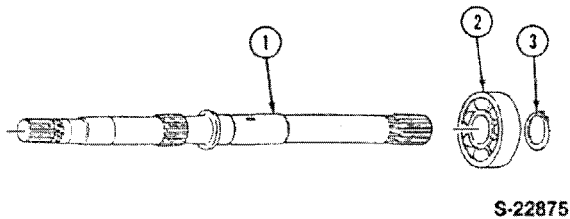

Figure 55
3. Press the bearing (2) in place on the input shaft (1) and secure with the snap ring (3), Figure 55.